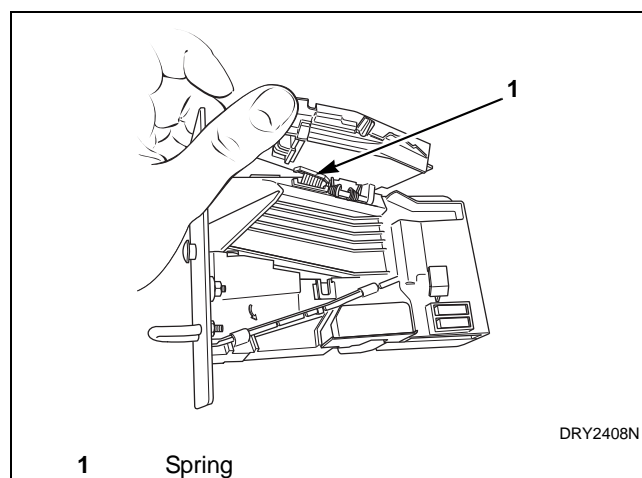

Figure 13
- c. Open cover of coin drop. Refer to *Figure 13*.